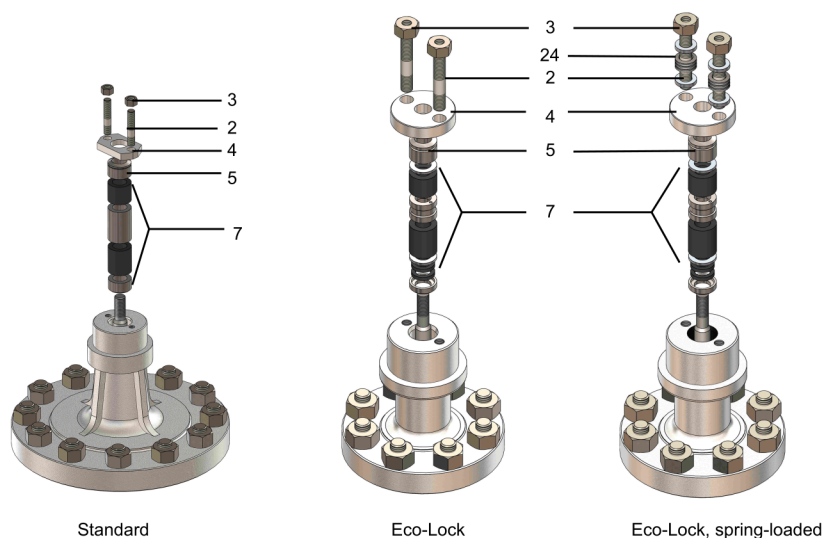

Fig. 10: Exploded view of gland packings
2. Insert the packing rings into the gland packing chamber individually. The joints of the individual packing rings must be staggered by 120°. Observe the sequence indicated in the exploded view. (⇒ Fig. 10)
3. Fit the thrust insert (5).
4. Fit the gland follower (4).
5. If applicable, fit the disc springs (24) on the studs (2) for spring-loaded gland packings.
6. Fit the nuts (3) on the studs (2).
7. Do not tighten the nuts (3) excessively.
10. Tighten the gland packing (7) such that fluid no longer escapes.